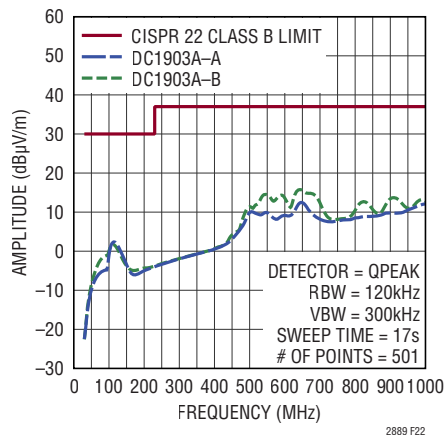

Figure 22. Low EMI Demo Board Emissions
- For large ground planes a small capacitance ( $\leq 330\text{pF}$ ) from GND to GND2, either discrete or embedded within the substrate, provides a low impedance current return path for the module parasitic capacitance, minimizing any high frequency differential voltages and substantially reducing radiated emissions. Discrete capacitance will not be as effective due to parasitic ESL. In addition, voltage rating, leakage, and clearance must be considered for component selection. Embedding the capacitance within the PCB substrate provides a near ideal capacitor and eliminates component selection issues; however, the PCB must be 4 layers. Care must be exercised in applying either technique to insure the voltage rating of the barrier is not compromised. The PCB layout in Figures 17-21 show the low EMI demo board for the LTM2889. The demo board uses a combination of EMI mitigation techniques, including both embedded PCB bridge capacitance and discrete GND to GND2 capacitors (C3 + C4). Two safety rated type Y2 capacitors are used in series, manufactured by Murata, part number GA342QR7GF471KW01L. The embedded capacitor effectively suppresses emissions above 400MHz, whereas the discrete capacitors are more effective below 400MHz. EMI performance is shown in Figure 22, measured using a Gigahertz Transverse Electromagnetic (GTEM) cell and method detailed in IEC 61000-4-20, "Testing and Measurement Techniques – Emission and Immunity Testing in Transverse Electromagnetic Waveguides."